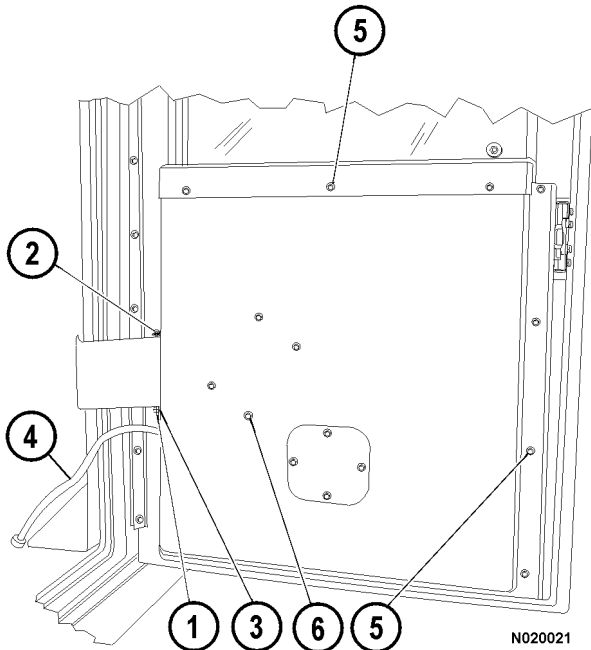

FIGURE 2-6.
1. Remove hair pin clip (1, Figure 2-6) and bolt (2) from the door check strap closes to the door.